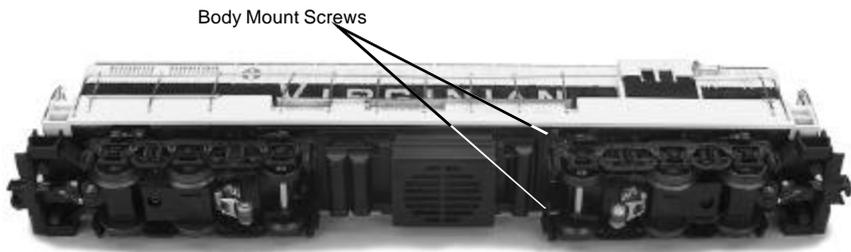

Figure 6a. First Set of Body Mount Screws
1. To access the gear box, remove the cab from the chassis by unscrewing the chassis screws as seen in Figure 6a-b and lifting the cab from the chassis.